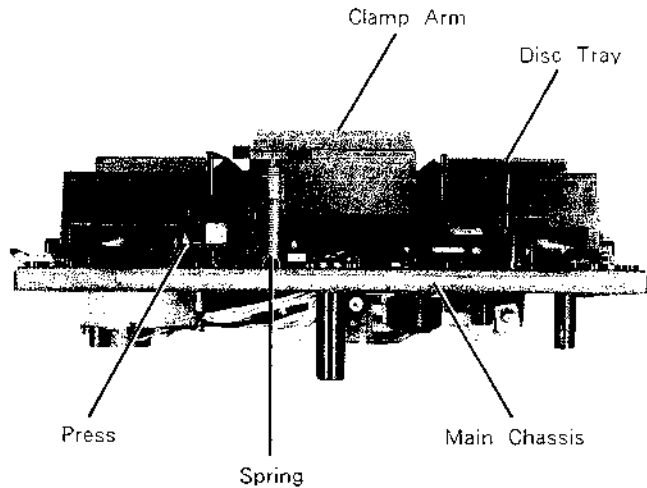

Figure 8
- (1) Pull out the disc tray in the arrow direction by pressing slant position of the disc tray as shown in Figures 8 and 9.
- (1) Remove one spring between the main chassis and the clamp arm as shown in Figure 8.